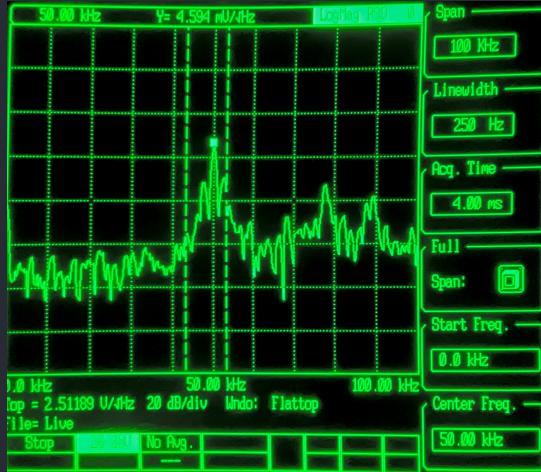

Figure 2.10: Increasing LO frequency.
- Changing the LO frequency moves the large amplitude carrier frequency (and its program content) to the left or right on the 770 i.e. the target RF frequency will be downconverted to a lower frequency $f_c = f_{RF} - f_{LO} = 850 - 800 = 50$ kHz as shown in Fig. 2.10.